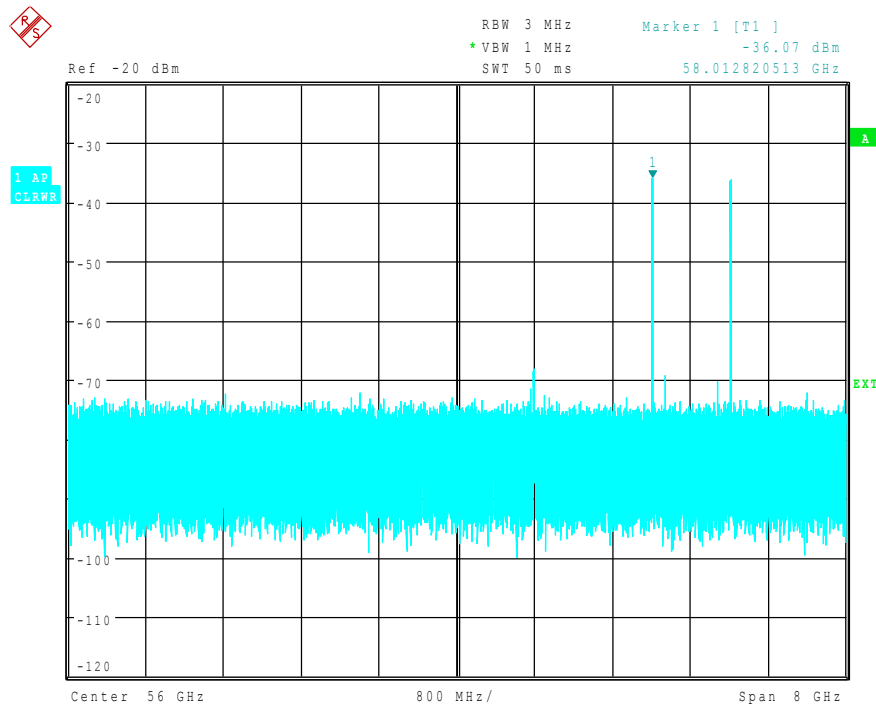

Fig. 4.41 Spectrum at the multiplier output recorded with an external mixer
- The display shown in Fig. 4.41 is obtained.
The spectrum represented in Fig. 4.41 contains the input signal and also a large number of unwanted mixer products. Two functions are provided by the R&S FSU to identify real input signals. The implemented methods are described in section "Signal Identification" on page 4.271. The *AUTO ID* function is used in this example.